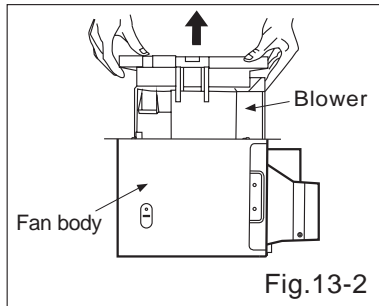

Fig.13-2
2. Remove blower section. (Fig.13-2)